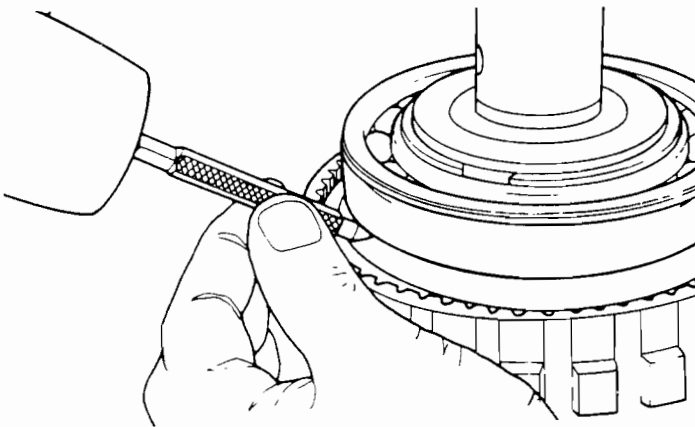

FIGURE 30
19. Mark the annulus and the output shaft for exact reassembly (Figure 30).